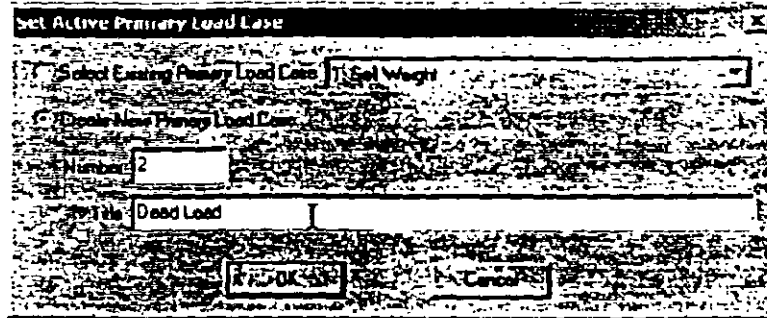

Figure 3.64
4. Create another Primary Load Case by clicking on the "New Primary.." button in the assign loads dialog box. Provide the title of this load case (Load Case 2) as "Dead Load" as shown in Figure 3.64 below.